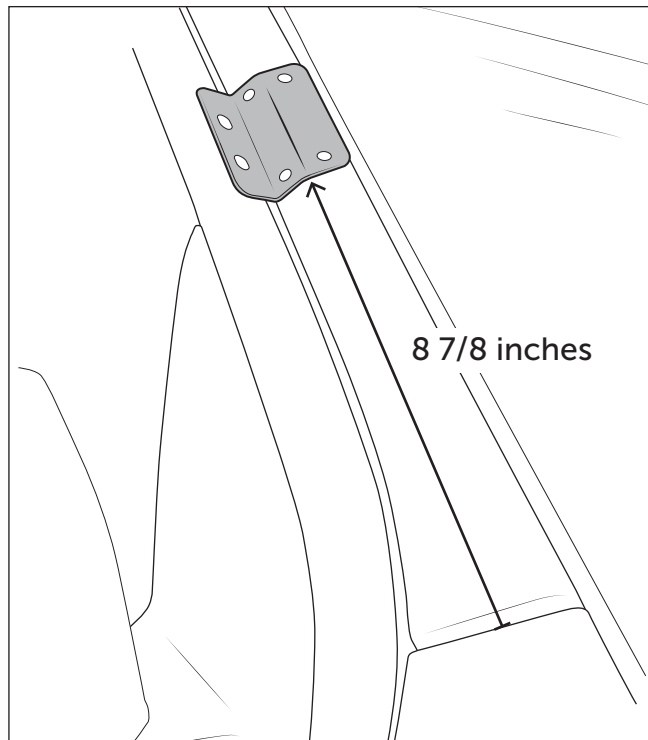

Figure 11
1. Measure up 8 7/8 inches from the top of the fender up the A Pillar to the bend in the bracket (fig. 11).